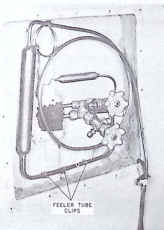

FIGURE 8
6. Remove the four base mounting bolts; disconnect the fan motor and relay leads from the wiring terminal strip; and remove the temperature control feeler tube clips. See figure 8.
10. Clip the feeler tube to the evaporator line as shown in figure 8.
19. Check the position of the feeler tube. See figure 8. Then install the insulation and rear cover plate. Make sure the permagum seal is continuous.